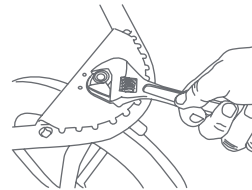

Fig. 25
- 25) • Remove footrest to access nut. You can use a standard crescent wrench to tighten the nut (Fig. 25). **DO NOT OVER TIGHTEN** this can cause damage to the wheel housing.